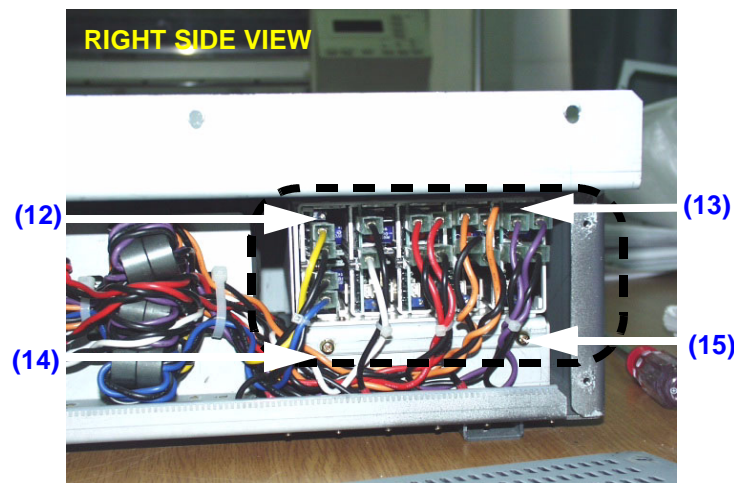

**Figure 8-185 Disconnect 3 connectors**
- 1.) Unscrew four (4) screws (1-4) to remove Left side cover of AC Power assy.
- 2.) Disconnect three (3) connectors (5-7) from the rear side of the LV Unit. Refer to Figure 8-185.